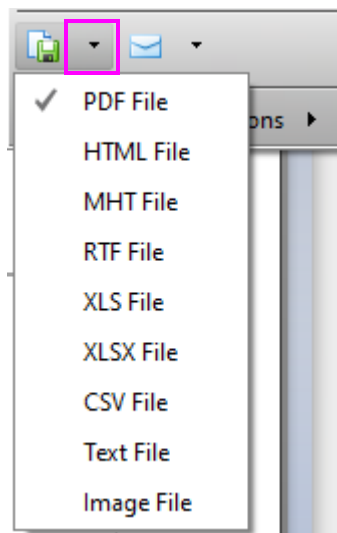

Figure 5-43: Export formats
6. Click the **Export Document** drop-down list, and select the format you wish to use to save the report. Available formats are shown in Figure 5-43.